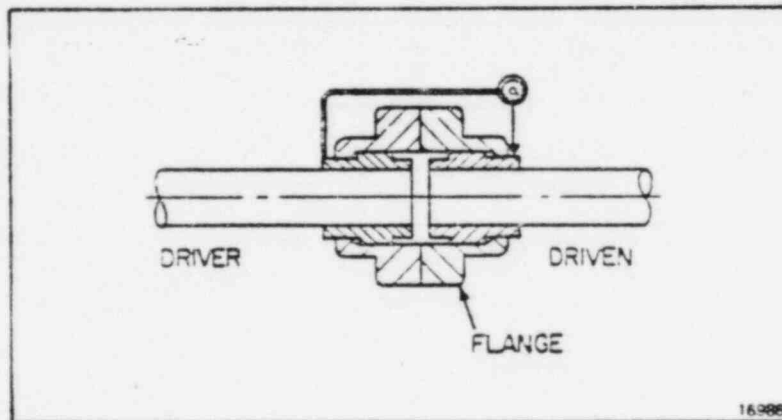

Figure 4. Check of Vertical Alignment
- c. Mount dial indicator as in Figure 4.